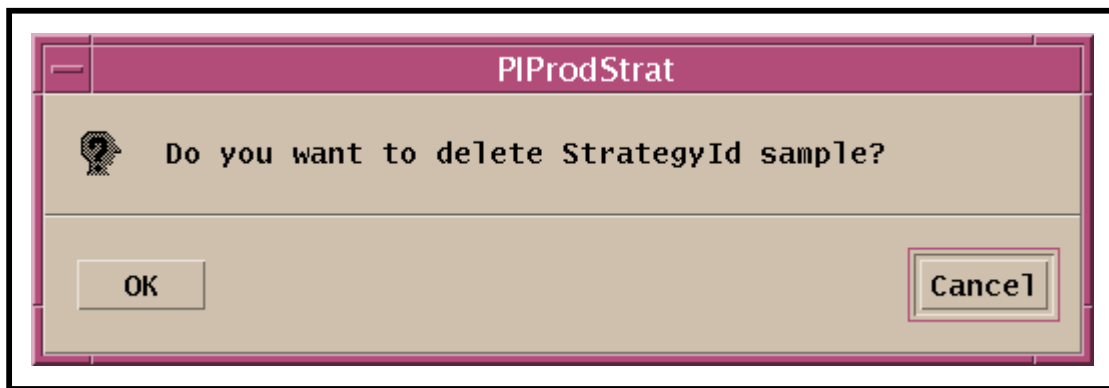

Figure 43. Production Strategy Deletion Confirmation Dialogue Box
- A production strategy deletion confirmation dialogue box (Figure 43) is displayed requesting confirmation of the decision to delete the production strategy.